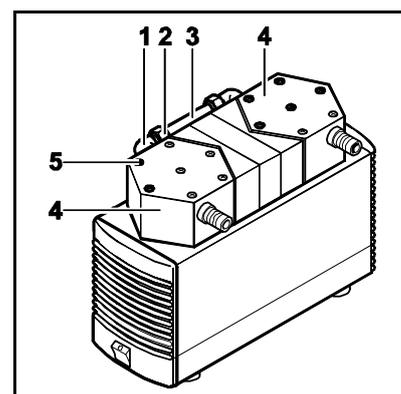

Fig. 6: Removing pump head
3. Loosen the outer screws (fig. 6/5) on the pump head/pump heads.